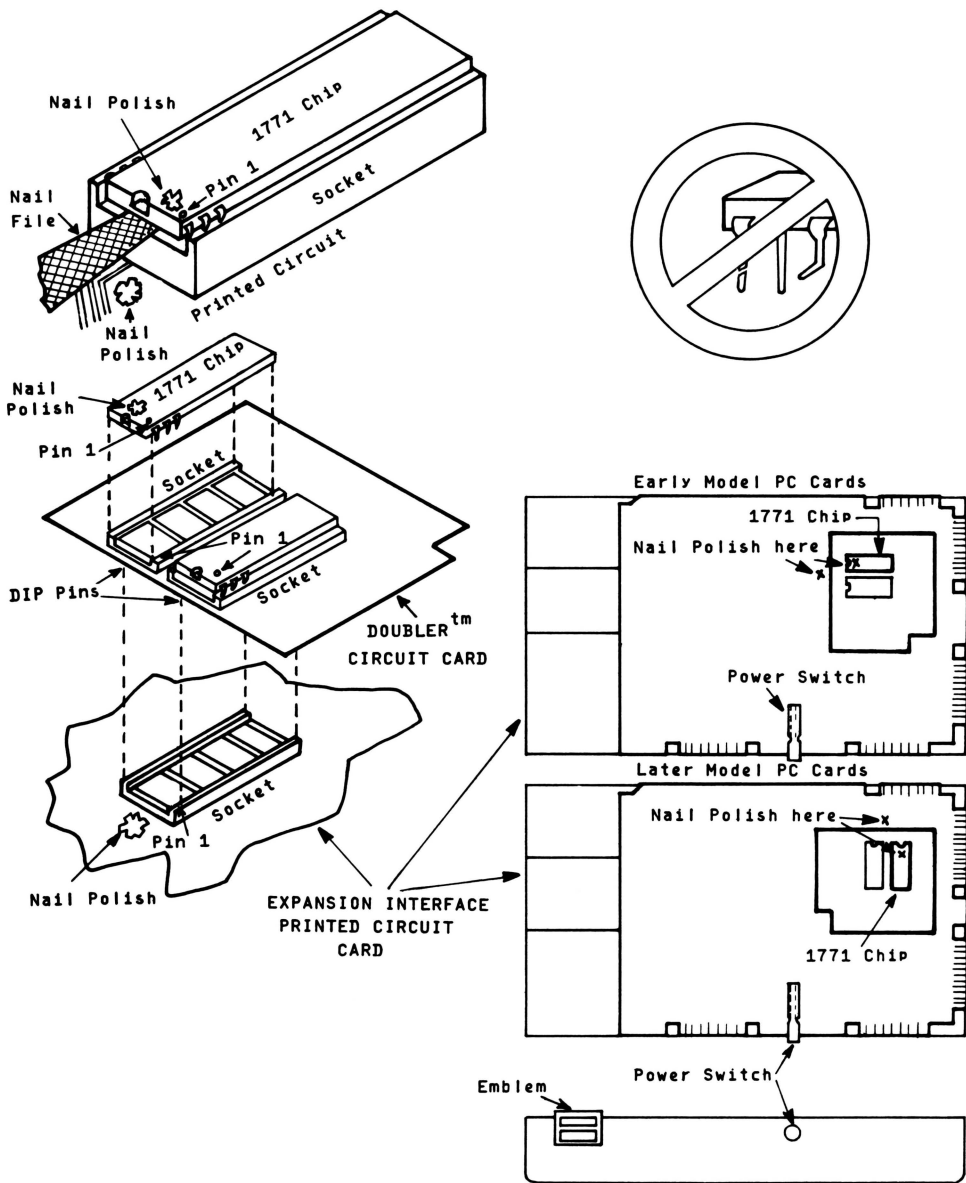

Figure 2.1
10. Locate the 40-pin, type 1771 disk controller chip. Refer to Figure 2.1.
12. Put a dab of nail polish on the Expansion Interface circuit board adjacent to the dab on the integrated circuit chip. Refer to Figure 2.1.
13. Carefully insert the nail file between the 1771 chip and its socket, and gently pry up a little. Refer to Figure 2.1.
16. Locate the 40-pin socket on the DOUBLER(tm) circuit card. Locate pin 1. Refer to Figure 2.1.